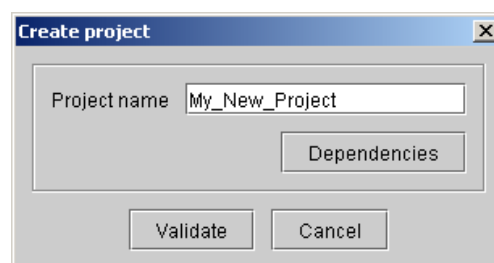

Figure 57: Name of the new project
- ◆ Enter the name of the new root project in the dialog box (Figure 57)